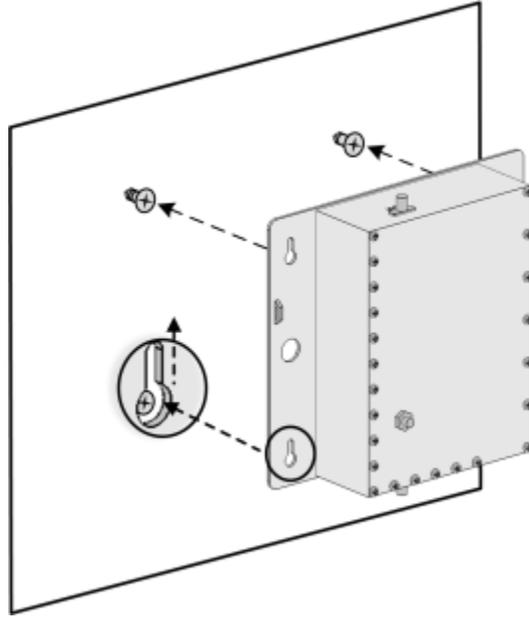

Figure 5-77. Mounting Cavity Filter on Wall
3. Hang the Cavity Filter on the anchors/screws and pull down to lock in narrow end of key hole. Refer to Figure 5-77.